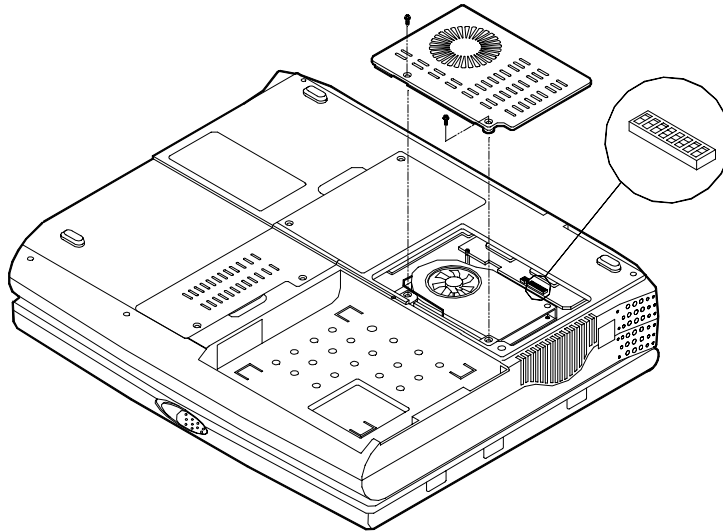

Figure 2-4
3. Remove the CPU cover. Use the 8-pole DIP Switch to set the configuration (Figure 2-4).